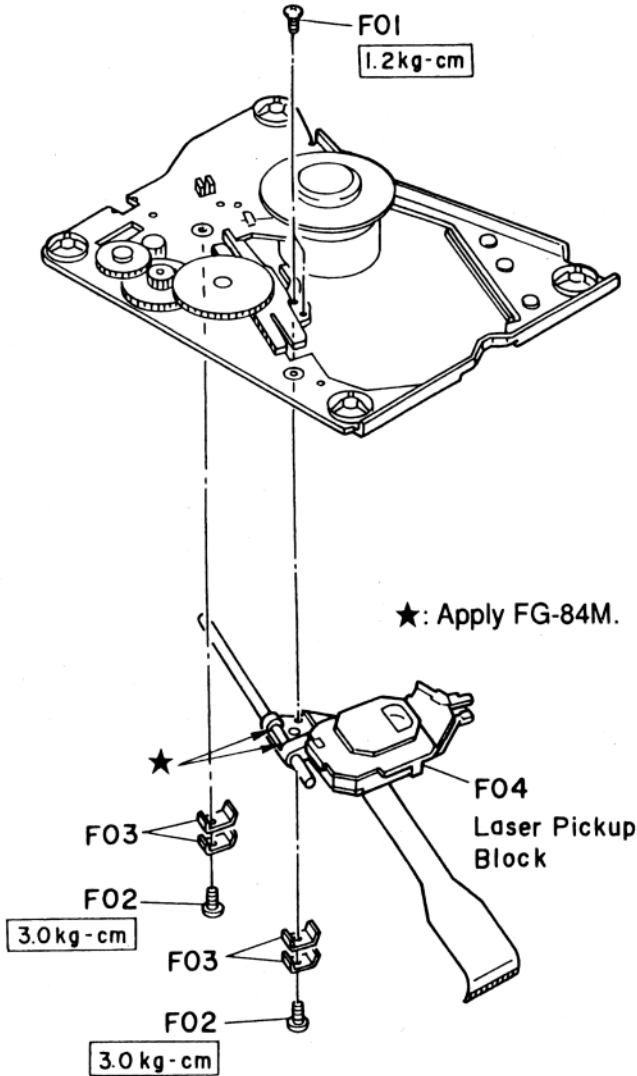
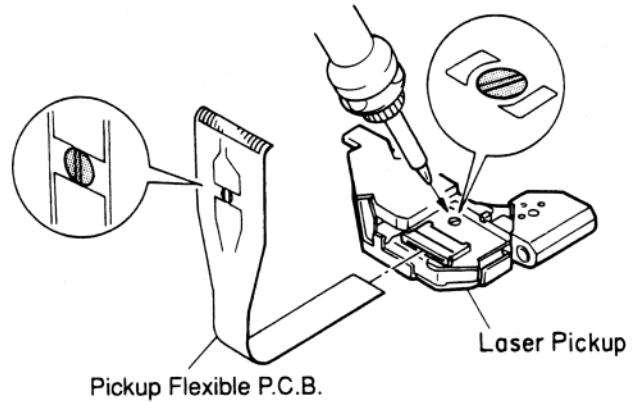

Fig. 2.8.1
Fig. 2.8.2
Refer to Fig. 2.8.1.
- (4) Before disconnecting the Pickup Flexible P.C.B. from the Laser Pickup, short the laser diode shorting lands on the bottom of the Laser Pickup. Refer to Fig. 2.8.2. **NOTE:** Use the soldering iron whose metal part is grounded or a ceramic soldering iron.
- (5) Disconnect the Pickup Flexible P.C.B. from the Laser Pickup.
- (1) Connect the Pickup Flexible P.C.B. to the Laser Pickup. Refer to Fig. 2.8.2.
- (2) Open the laser diode shorting lands on the bottom of the Laser Pickup. Refer to Fig. 2.8.2. **NOTE:** Use the soldering iron whose metal part is grounded or a ceramic soldering iron.
- (3) Insert the PU Guide Shaft SL into the Laser Pickup.
- (4) Assemble F04 (Laser Pickup Block) with F03 (4 pcs.) by tightening screws F02 (2 pcs.) with a torque of 3.0 kg-cm.
- (5) Assemble F04 (Laser Pickup Block) with screws F01 (2 pcs.) with a torque of 1.2 kg-cm. Refer to Fig. 2.8.1.